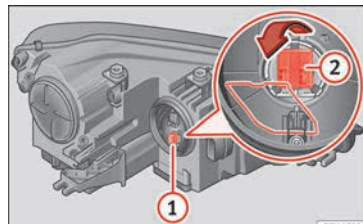

Fig. 109 Turn signal bulb holder **1** and turning light **2**.
- Rotate the bulb holder **1** » **Fig. 109** to the left all the way and pull it out backwards together with the bulb.
Press the wire clip downwards and pull the bulb holder **2** » **Fig. 109** out together with the bulb.